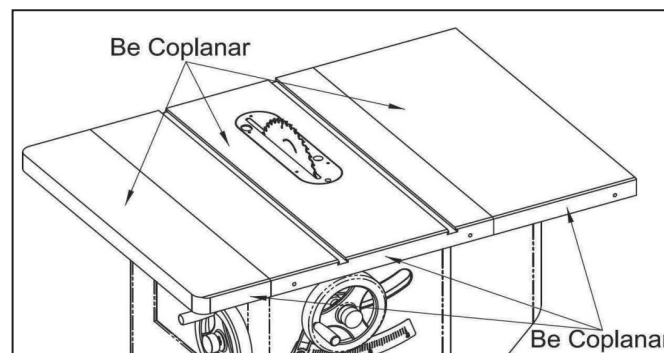

Fig. 6-1
2. Remove the existing front guide rail, rear guide rail, fence, wooden (or phenolic) tabletop, and any other components, while retaining the main tabletop and the left and right cast iron wings, as depicted in **Fig. 6-1**.
3. Ensure the tabletop is properly aligned, so that all surfaces of the cast iron tabletops are levelled with each other and the front-end faces are aligned, as illustrated in **Fig. 6-1**.